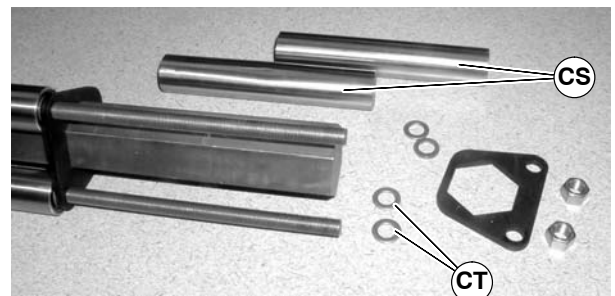

Figure 71
7. Remove pulleys (CS of Figure 71) and additional washers (CT).